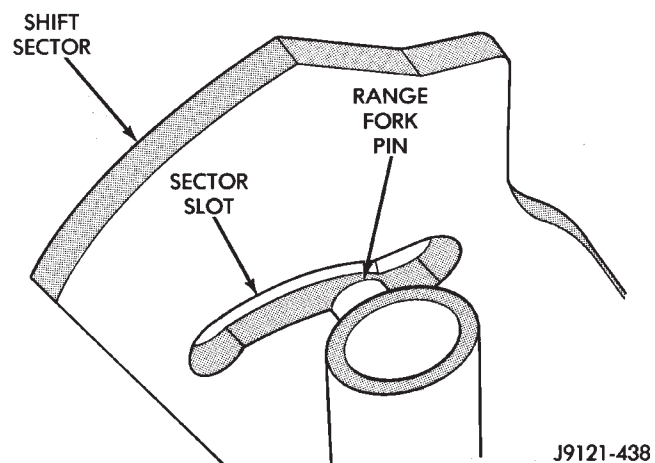

Fig. 52 Seating Range Fork Pin In Shift Sector Slot
(7) Engage range fork pin in shift sector slot (Fig. 52).
(8) Insert shift hub in low range gear. Be sure hub is fully seated.